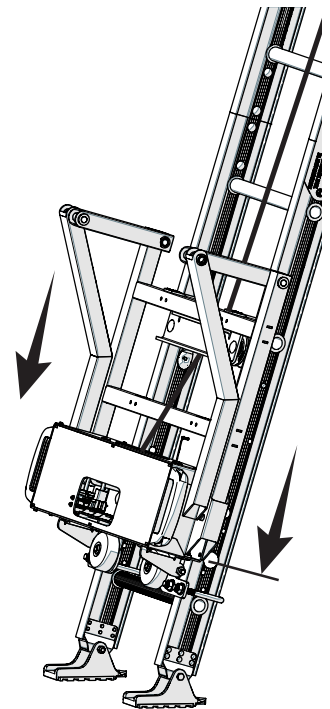

Fig. 13-2
- Slide the roller tube frame into the side mounting tube on the lower side of the power box. At the same time the angled tube will slide into the upper mounting tube on each side of the power box. See Fig 13-2 show right.
- Working from behind the TranzVolt attache the rubber hand knob on the ends of the power box passing through the platform frame. See Fig. 13-2.